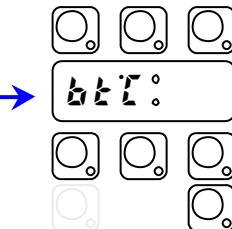
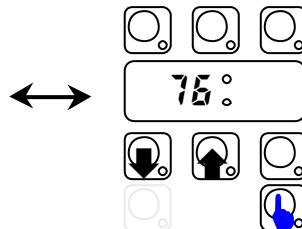

Fig. 5.2
Fig. 5.3
- Press CYCLE INFINITE. The display shows alternatively the symbol **bE_L** (Fig.5.2) and the corresponding value **75** (Fig.5.3);
- Press CYCLE INFINITE. The display shows alternatively the symbol (Fig.5.2) and the corresponding value (Fig.5.3);
- Use CYCLE_1 key to increase the value and CYCLE_2 key to decrease (Fig.5.3);